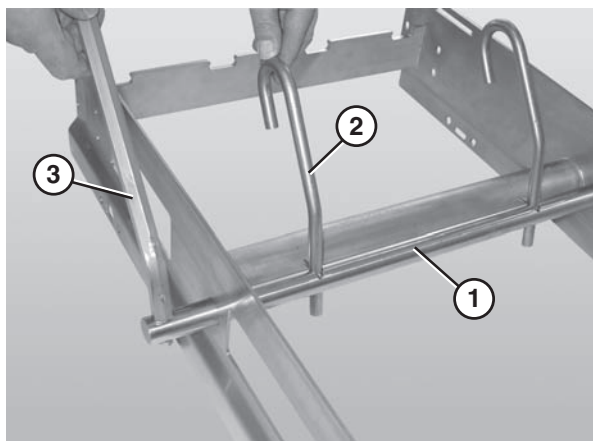

Figure 27
1. Slide the belt lift pivot bar (**Figure 27, item 1**) through the designated holes in the frame.
2. Attach the lifter bars (**Figure 27, item 2**) to the belt lift pivot bar (**Figure 27, item 1**). Make sure the hooked ends of the lifter bars are facing down when resting against the frame.
3. Attach the lifter handle (**Figure 27, item 3**) to the belt lift pivot rod.